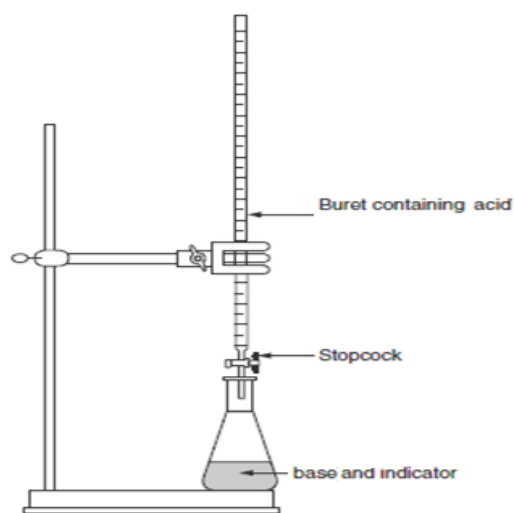

Figure 5: Neutralization reaction of sulphuric acid and sodium hydroxide
1. Set up the apparatus as shown in Figure 5